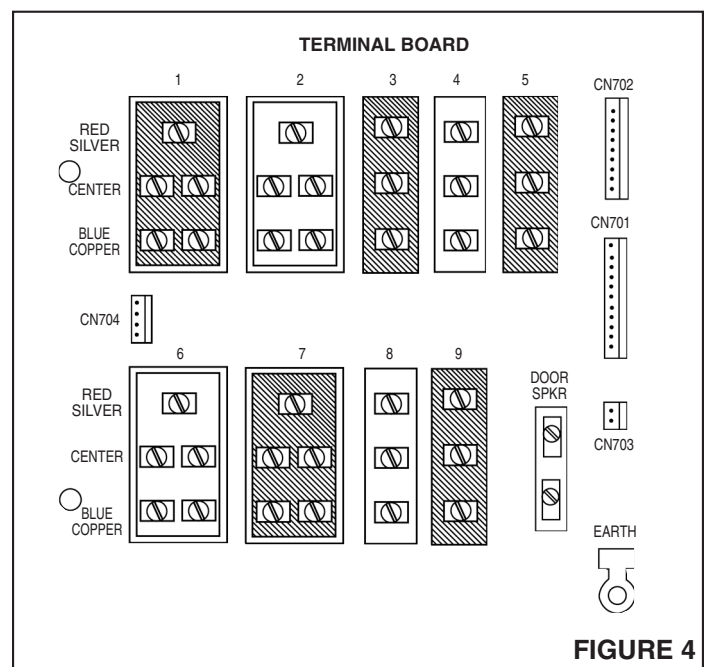

FIGURE 4
2. Refer to Figure 4. Connect the two wires from the door speaker(s) to the two terminal screws marked **DOOR SPKR** on the Master Terminal board.